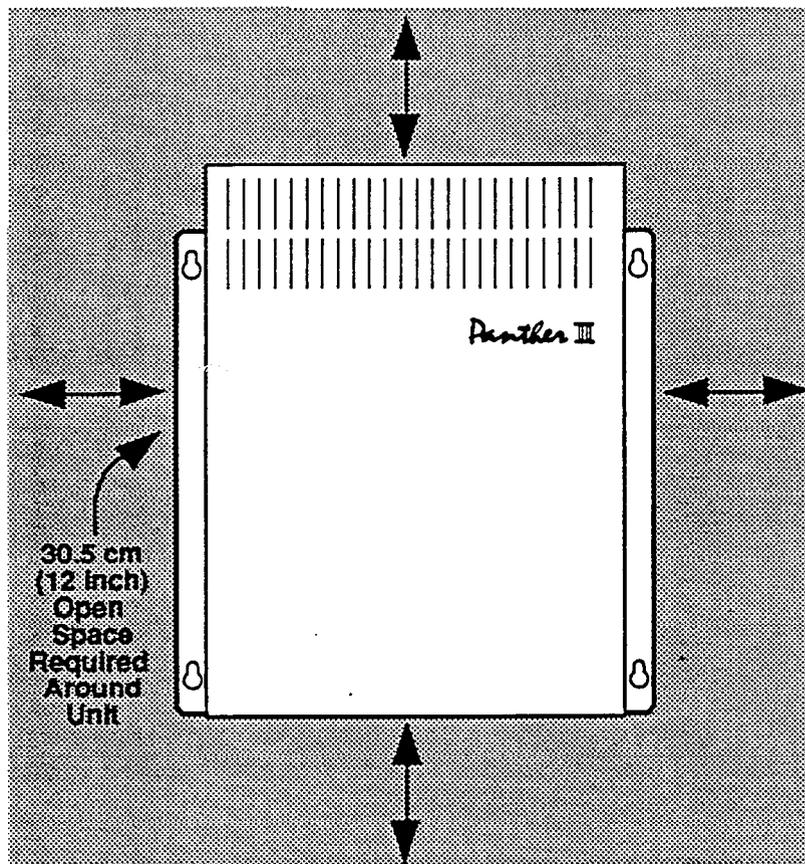

Figure 5-1 KSU Space Requirements
5.01 It is recommended that the KSU be wall mounted on a wooden backboard. The thickness of the backboard should be 20 mm (0.75 inch) to accommodate the KSU mounting screws. The area of the backboard should be sufficient to accommodate the KSU, the Main Distribution Frame (MDF) connection block and any ancillary devices which form part of the system. The KSU alone requires clearance of 12 inches around its perimeter to facilitate installation, maintenance and ventilation. See Figure 5-1. In addition, the KSU should be mounted at least 12 inches (305 mm) above the floor.